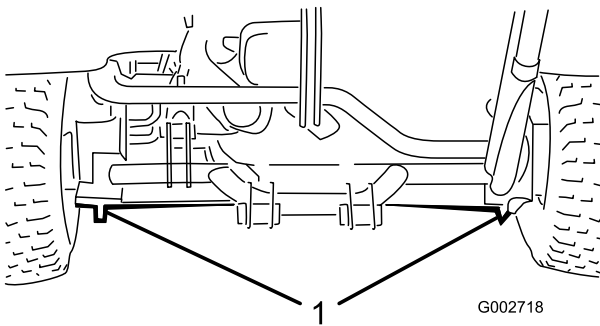

Figure 20
- Left or right side-under the rear wheel motor or the frame (Figure 20).